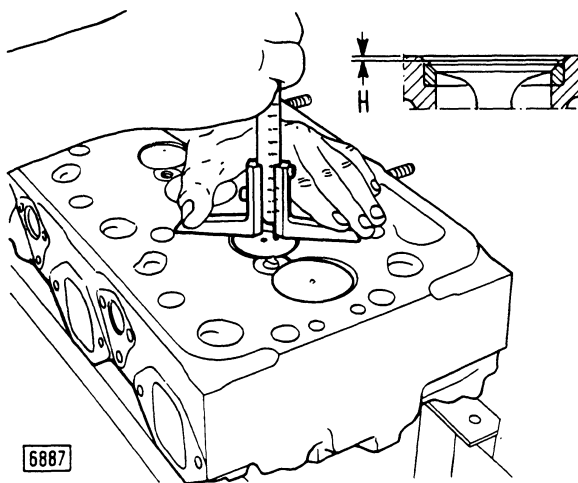

Fig. 8 - Checking valve stand-in from cylinder head.
- Valve stand-in (H) from cylinder head is as indicated in fig. 8.